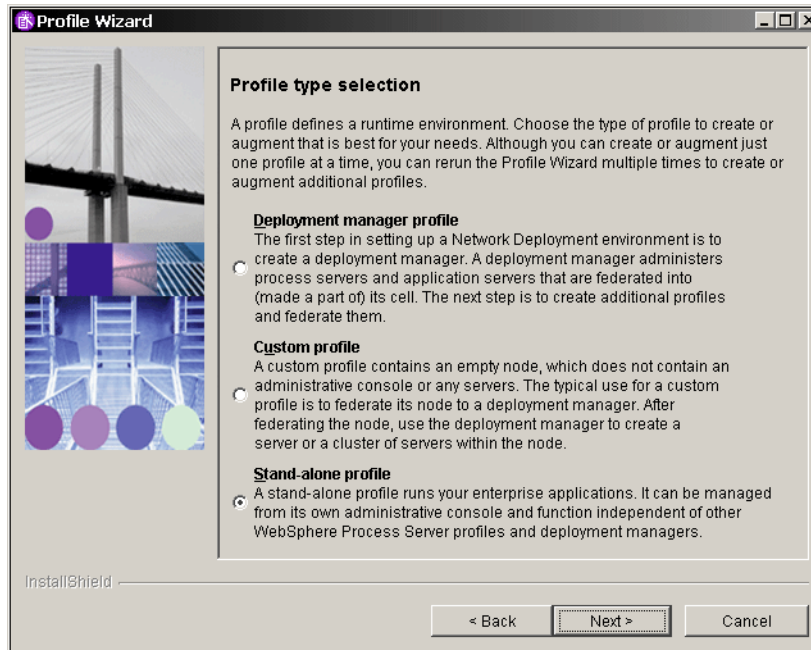

Figure A-15 WebSphere Process Server: Profile selection
- ▶ Select *Stand-alone profile* and click *Next* (Figure A-15).